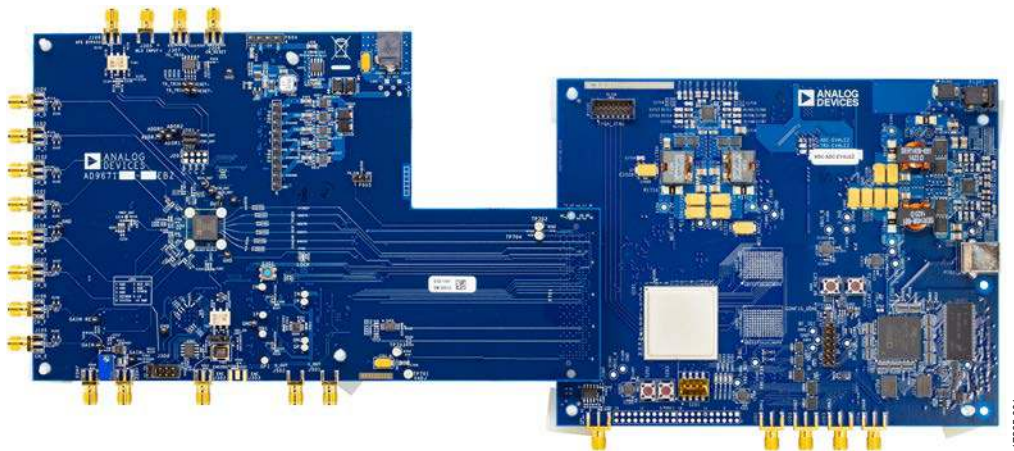

Figure 1.
1. Power up the HSC-ADC-EVALEZ data capture board by connecting it to the USB cable and 12 V adapter, then power up the AD9671EBZ evaluation board by connecting it to the 6 V adapter (see Figure 1).